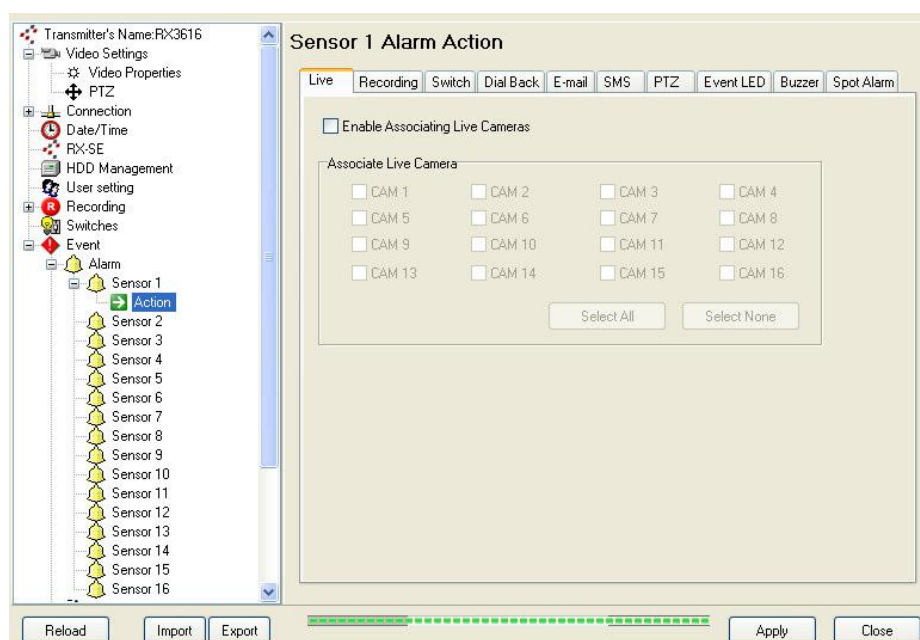

Fig 8.2c
Step 2 : User can select the action setting for that event as shown on Fig 8.2c.